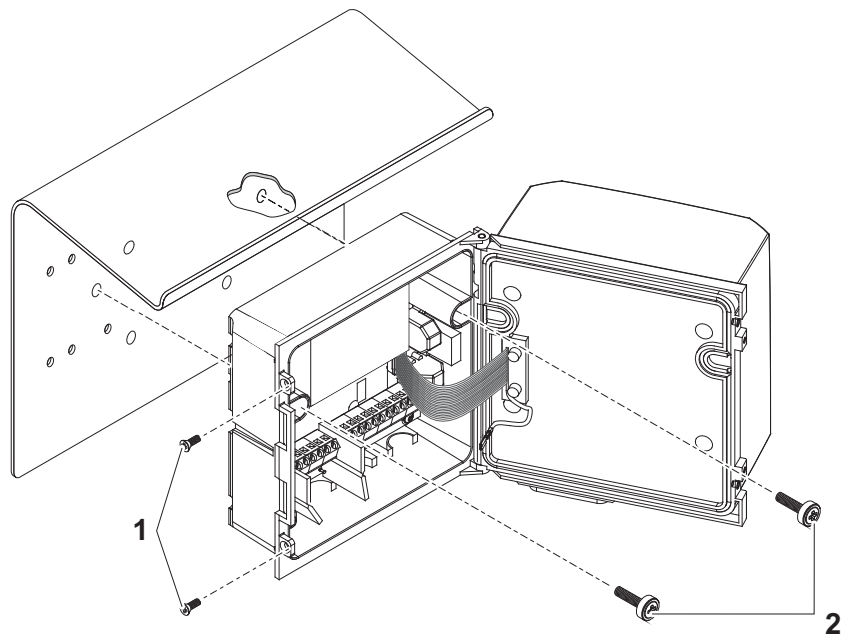

figure 3-1 Mounting the DPM with sun shield SD/K 170
- 4 Using the mounting brackets, install the DPM Controller or DPM-IC2 on the handrail directly above the tapped air distributor (header) (See figure 3-1).
- 5 Remove the two countersunk screws (pos. 1 in figure 3-1) and swing open the module lid.
- 6 Position the DPM on the sun shield and fix it into place with the two screws (pos. 2 in figure 3-1).
- 7 Close the lid and fix it with the two countersunk screws (pos. 1 in figure 3-1).